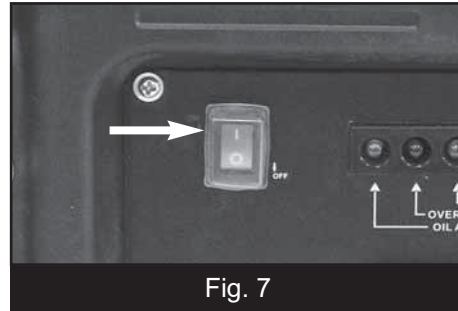

Fig. 7
2. Turn the engine switch to the ON (I) position (Fig.7).